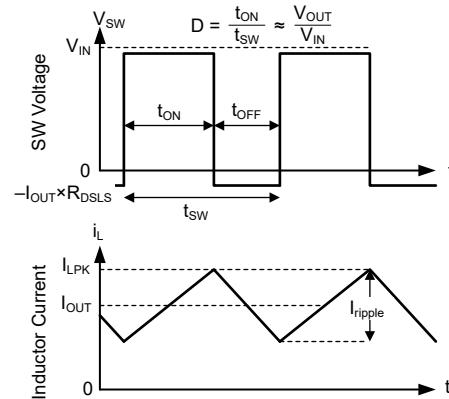

Figure 7-10. SW Voltage and Inductor Current Waveforms in Continuous Conduction Mode (CCM)
The following operating description of the LM654xx-Q1 refers to Section 7.2 and the waveforms in Figure 7-10. Both supply a regulated output voltage by turning on the internal high-side (HS) and low-side (LS) NMOS switches with varying duty cycle (D). During the HS switch on-time, the SW terminal voltage, V_{SW} , swings up to approximately V_{IN} , and the inductor current, i_L , increases with a linear slope. The HS switch is turned off by the control logic. During the HS switch off-time, t_{OFF} , the LS switch is turned on. Inductor current discharges through the LS switch, forcing V_{SW} to swing below ground by the voltage drop across the LS switch. The regulator loop adjusts the duty cycle to maintain a constant output voltage. D is defined by the on-time of the HS switch over the switching period: $D = T_{ON} / (T_{ON} + T_{OFF})$.